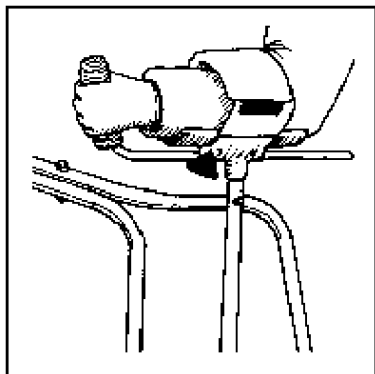

FIG 3
5. Once again, rest your forearm on the padded trough and hold the grip. Using your free hand secure the padded straps, via the Velcro, around your arm, ensuring your arm can slip in & out comfortably (Fig 3).